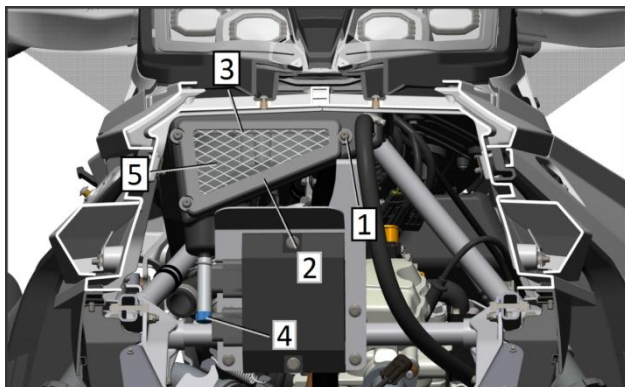

Fig. 24
1. Remove the engine hood and right side panel (see item 17, item 18 of "Control mechanism, equipment and equipment").
2. Place the convenient container under the cork of the air filter housing (Fig. 4, Fig. 24, 25), take out the cork, wait for the condensate to drain, and insert the cork again.
3. In the 4 mm hexagon, unscrew 3 screws (position 1, figure 24), cover (position 2, figure 24), screen filter (position 3, figure 24) and foam filter element (position 5, figure 24). Remove the cover.